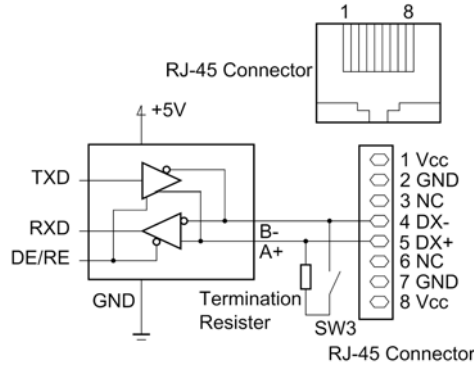
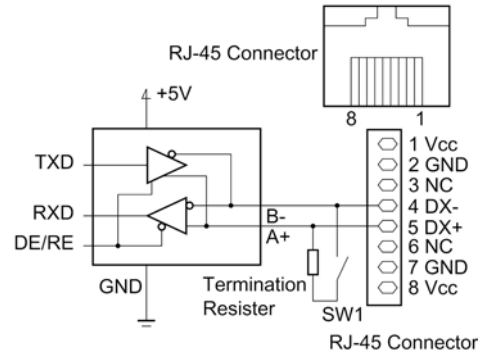

Figure 1.2 Standard RS-485 Port and RJ-45 Connector Pin Assignment (FRENIC-Eco/Multi)
Figure 1.3 Optional RS-485 Port and RJ-45 Connector Pin Assignment (FRENIC-Mini)
- RJ-45 connectors mounted in the inverter and on the RS-485 communications card, have pins assigned for feeding power to the keypad used for remote operations. Do not use these pins for any other purposes such as for connection of any equipment other than the keypad. (See Figure 1.2 and Figure 1.3 on the next page.)
For ease of connection to a standard RS232C-RS-485 communications converter FRENIC-Mini/Eco/Multi is designed to be compliant with the standard 4 pairs signal line pin assignment for the RJ-45 connector, where a pair of signal lines DX- and DX+ are assigned to No. 4 and 5 pins as shown in Figure 1.2.